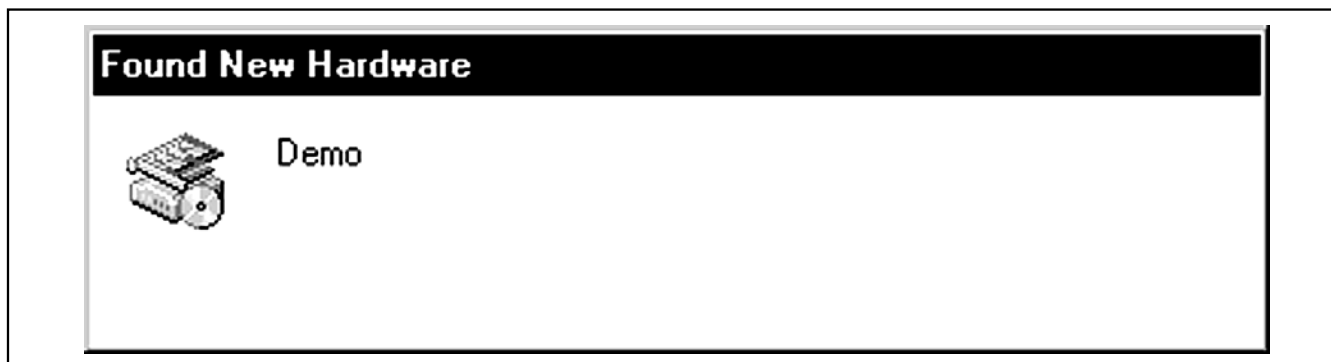

Figure 1. Found New Hardware | Demo Window
- 5) A **Found New Hardware | Demo** window appears after plugging in the USB cable for the first time (Figure 1). Windows 2000 or higher is required.